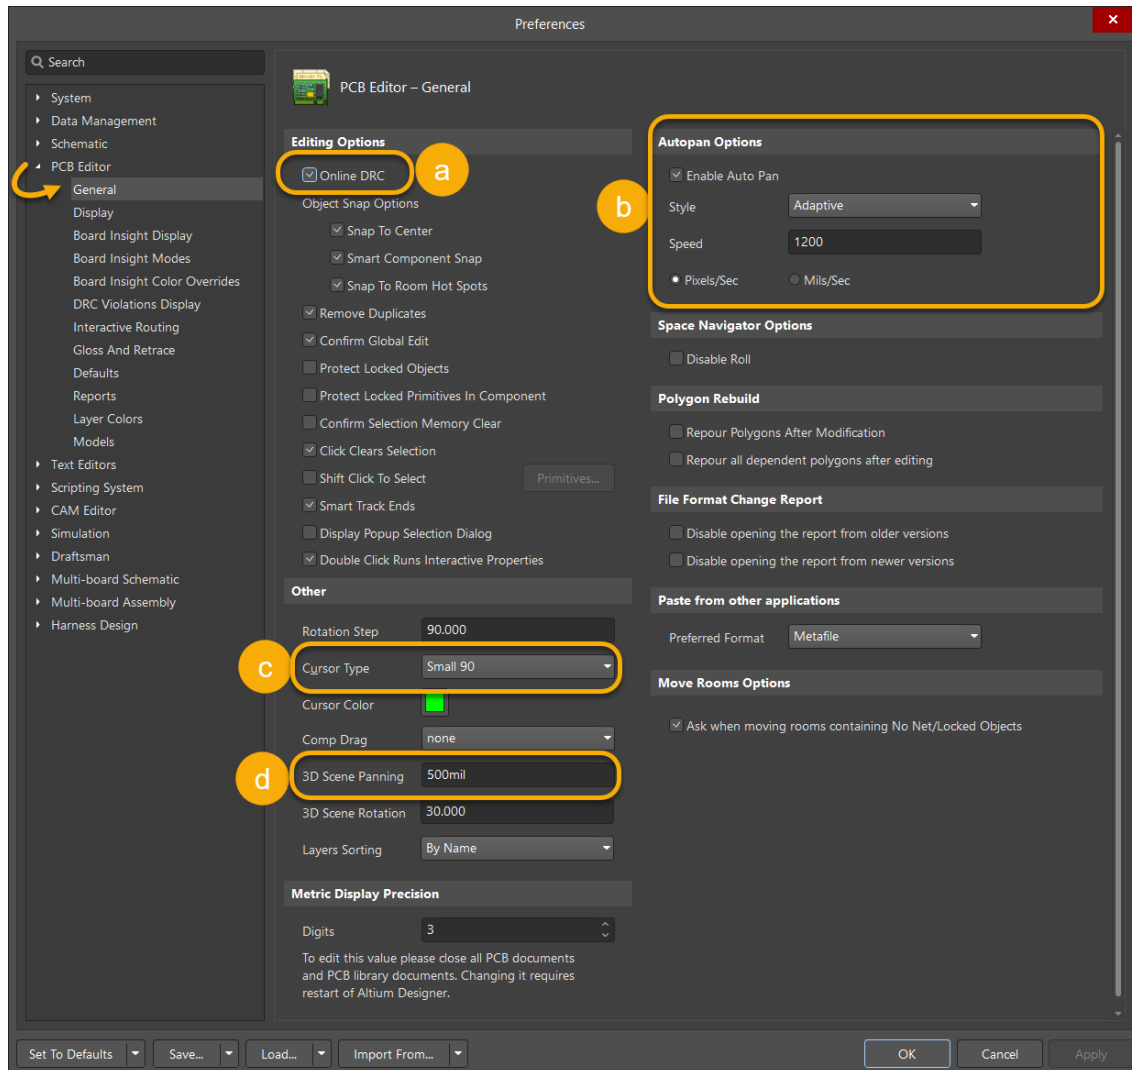

Figure 8. General Preferences for the PCB Editor
26. Click the  in the upper right corner, to open the *Preferences*. Open the *PCB Editor* branch and open the *General* page as shown in Figure 8 below.